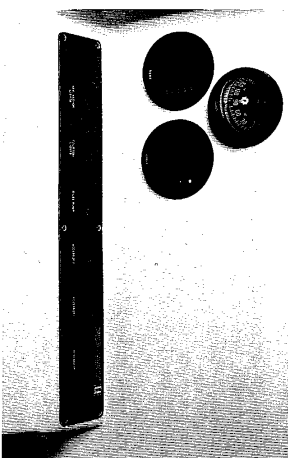

Figure 13
6. Test all switches on the accessory panel. See figure 13. Make sure the switches activate the equipment they control, and all equipment is in good operating condition.